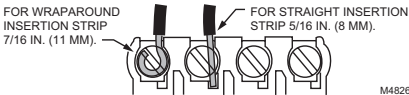

Fig. 4. Correct wiring technique.
1. Loosen the terminal screws on the wallplate and connect the system wires. See Fig. 4.